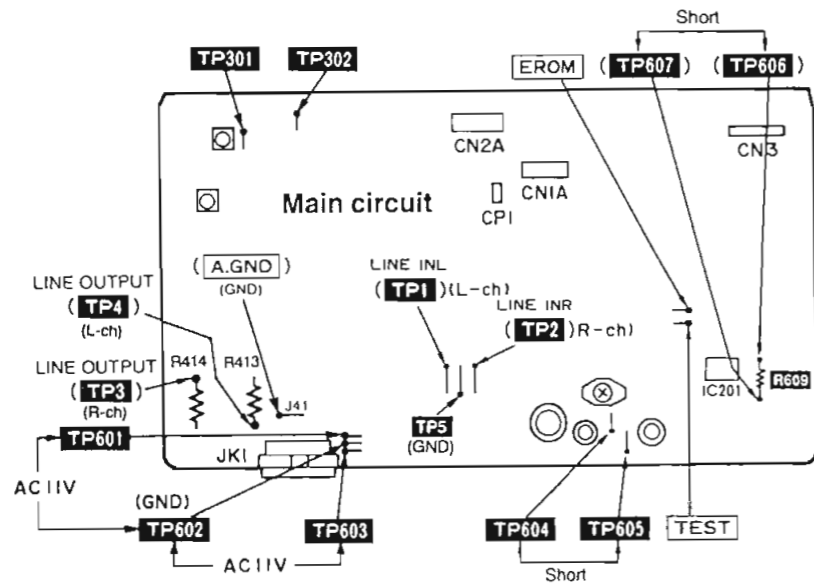
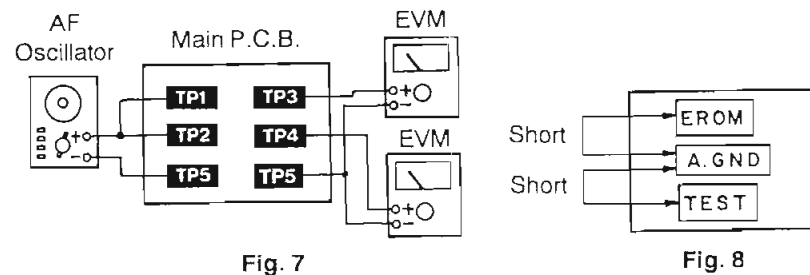
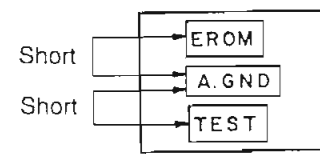

Fig. 1
Fig. 7
Fig. 8
1. Short test points between **TP604** and **TP605**, and **TP606** and **TP607** at the resistor **R609** as shown in Fig. 1.
- Connect an AF oscillator between **TP1** (LINE IN, left channel) and **TP5**, and between **TP2** (LINE IN, right channel) and **TP5**. (Refer to Fig. 1 and Fig. 7.)
- Connect an EVM (AC range) between **TP3** (LINE OUT, left channel) and **TP5**, and between **TP4** (LINE OUT, right channel) and **TP5**. (Refer to Fig. 1 and Fig. 7.)
- Connect **EROM** and **TEST** to the **A. GND**. (Refer to Fig. 1 and Fig. 8.)